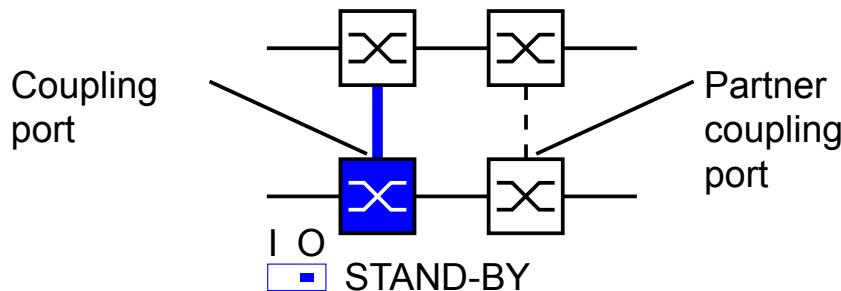

Figure 14: Two-Switch coupling
- Select two-Switch main coupling (see fig. 14).